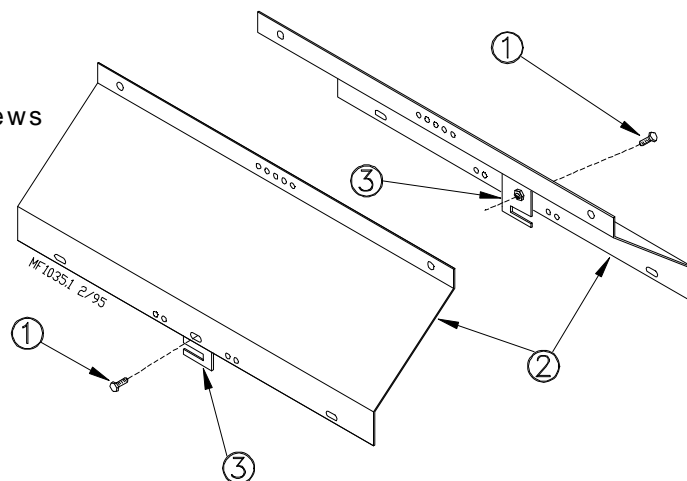

Figure 32. Litter Shield Installation
2. Using the 10-24 screws provided, *loosely* fasten a Motor Support to each Shield Side. See Figure 32. Note: The Motor Supports include weld nuts. Install the tabs so that they face opposite directions when secured to the Shield Sides.